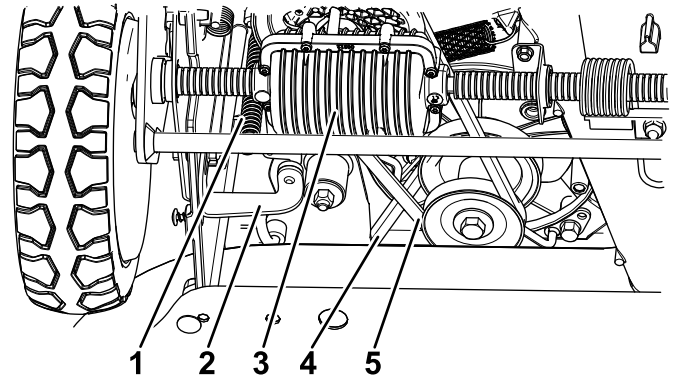

Figure 51
6. Loosen the bracket and rotate the bracket forward (Figure 51).